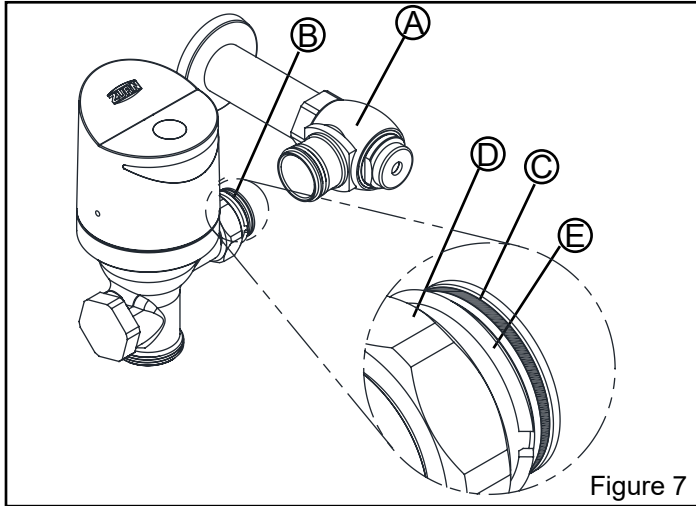

Figure 7
Prior to attaching flush valve to control stop(A) inspect and verify that the O-ring (C) is located within the O-ring groove at the tailpiece. Ensure the locking nut (D) and locking snap ring (E) are also present on the tailpiece. See Figure 7.